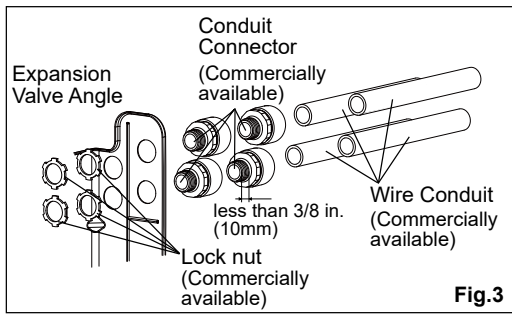

Fig.3
- (3) Attach the Conduit Connector to Expansion Valve Angle with lock nut. (Fig.3)